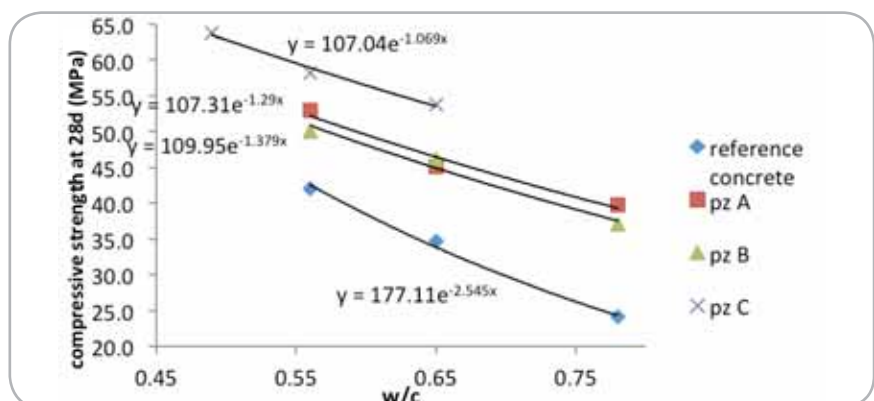

Fig. 1 : Concrete compressive strength (measured at 28 days from cast) as function of the water to cement ratio: experimental regressions.
ment ratio resulted, and the concrete compressive strength after 7, 28, 60 and 90 days were recorded. Figure 1 shows the variation in compressive strength at the age of 28 days as result of increased water to cement ratios.
Step 4: Data from Table 2 are plotted in terms of compressive strength values vs. the water to cement ratios, so determining an experimental law (exponential type $R_c = a * e^{b * (w/c)}$) for each of the three compounds. Data in Figure 1 refers to compressive strength values measured at the age of 28 days from the cast. Similar plots are obtained when strength values at different ages are considered.
Table 3 Coefficients a and b of the experimental regressions (exponential lows type $R_c = a * e^{b * (w/c)}$): data shown in Fig. 1 are marked in bold style.
Step 5: Numerical coefficient a and b of the regressions lows plotted as in Step 4 are recorded. Table 3 resumes the coefficients of all the regression, referring to any different series of concrete mixtures at any different age of tests. Concerning compressive strength values at the age of 28 days, coefficient a and b are listed in Table 3 as they are readable from Fig. 1.